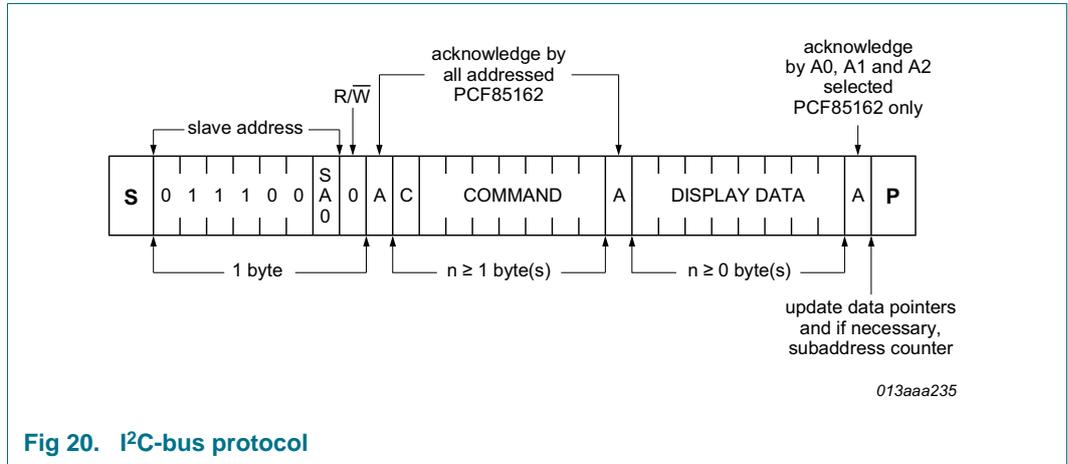

Fig 20. I²C-bus protocol
The I²C-bus protocol is shown in Figure 20. The sequence is initiated with a START condition (S) from the I²C-bus master which is followed by one of the two possible PCF85162 slave addresses available. All PCF85162 whose SA0 inputs correspond to bit 0 of the slave address respond by asserting an acknowledge in parallel. This I²C-bus transfer is ignored by all PCF85162 whose SA0 inputs are set to the alternative level.